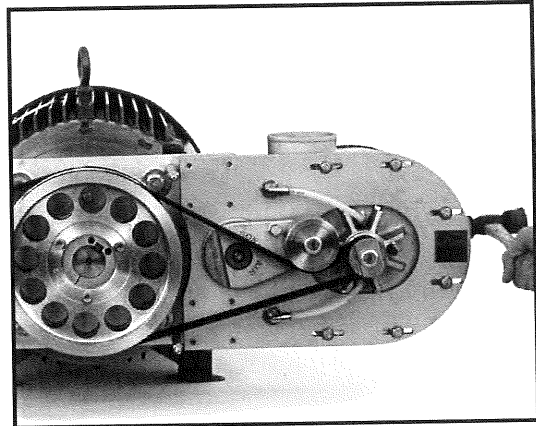

Figure 22 - Adjust Belt Gap
11. If a ¾ inch belt gap was not achieved, use a ½ inch socket to loosen the blower head screws and slide the head. (See Figure 22)